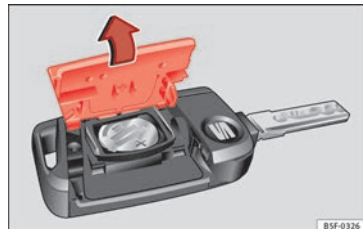

Fig. 132 Vehicle key: opening the battery compartment
- Remove the cover from the back of the vehicle key » Fig. 132 in the direction of the arrow » ❶.
- Fit the cover as shown » Fig. 132, pressing it onto the vehicle key casing in the opposite direction to that shown by the arrow until it clicks into place.